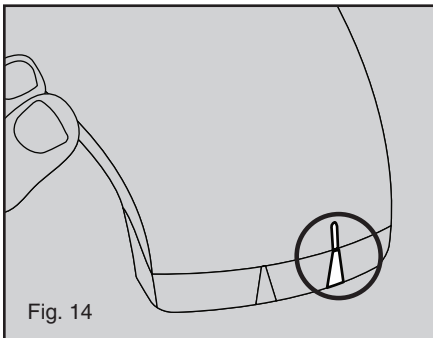

Fig. 14
15. Rotate the soap discharge head counter-clockwise until the tab on the soap discharge head is aligned with the rear tab on the support shaft (see figure 14).